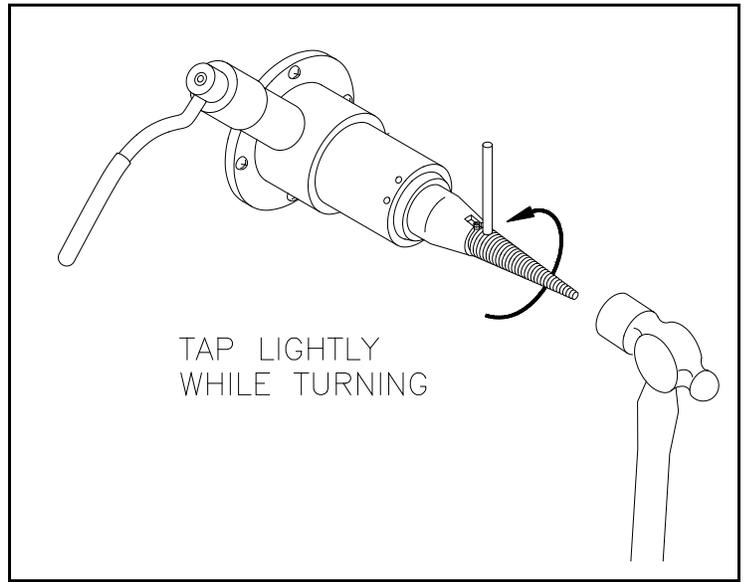

Figure 2.
- 5.3 Insert the 1/8" diameter. rod. Tap the end of the spiral **LIGHTLY** while turning the rod counterclockwise. See Figure 2. If this does not release the spiral, continue with the next step.